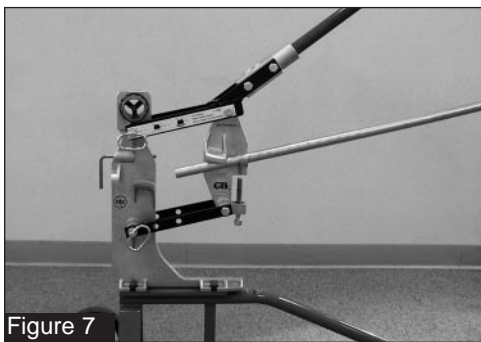

Figure 7
5. Raise the bender handle and insert the conduit into the correct size bending jaws (check bend bracket decals). See Figure 7. Be sure the conduit extends a minimum of 2" beyond the jaw.